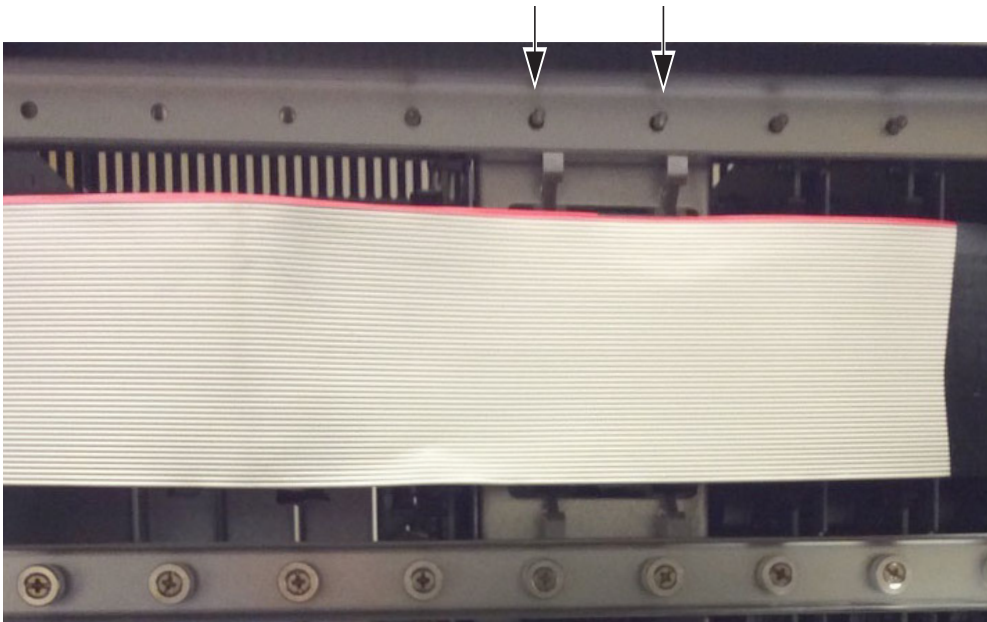

Figure 5. Guide pins and guide holes inside a Stage 64
- Inside the back of the unit, make sure the pin at the top of the card aligns with the corresponding chassis guide hole (Figure 5).